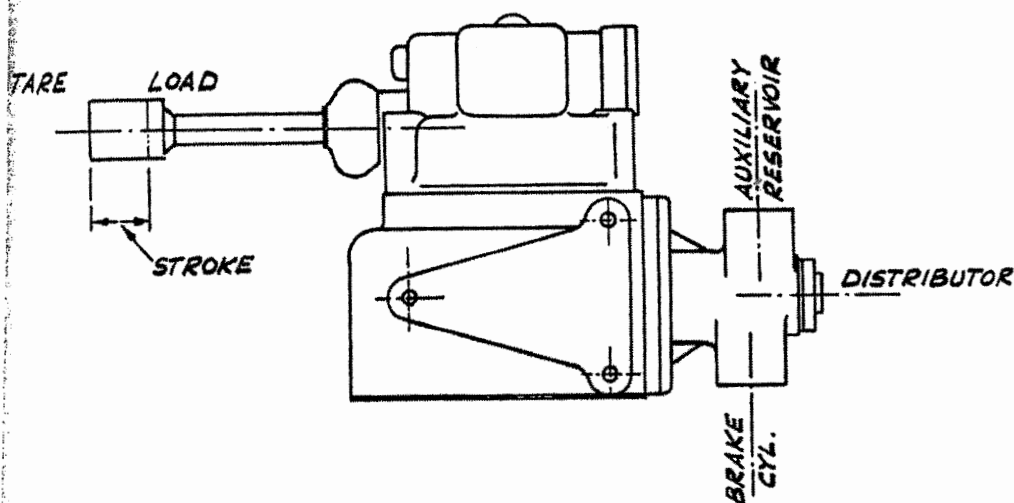
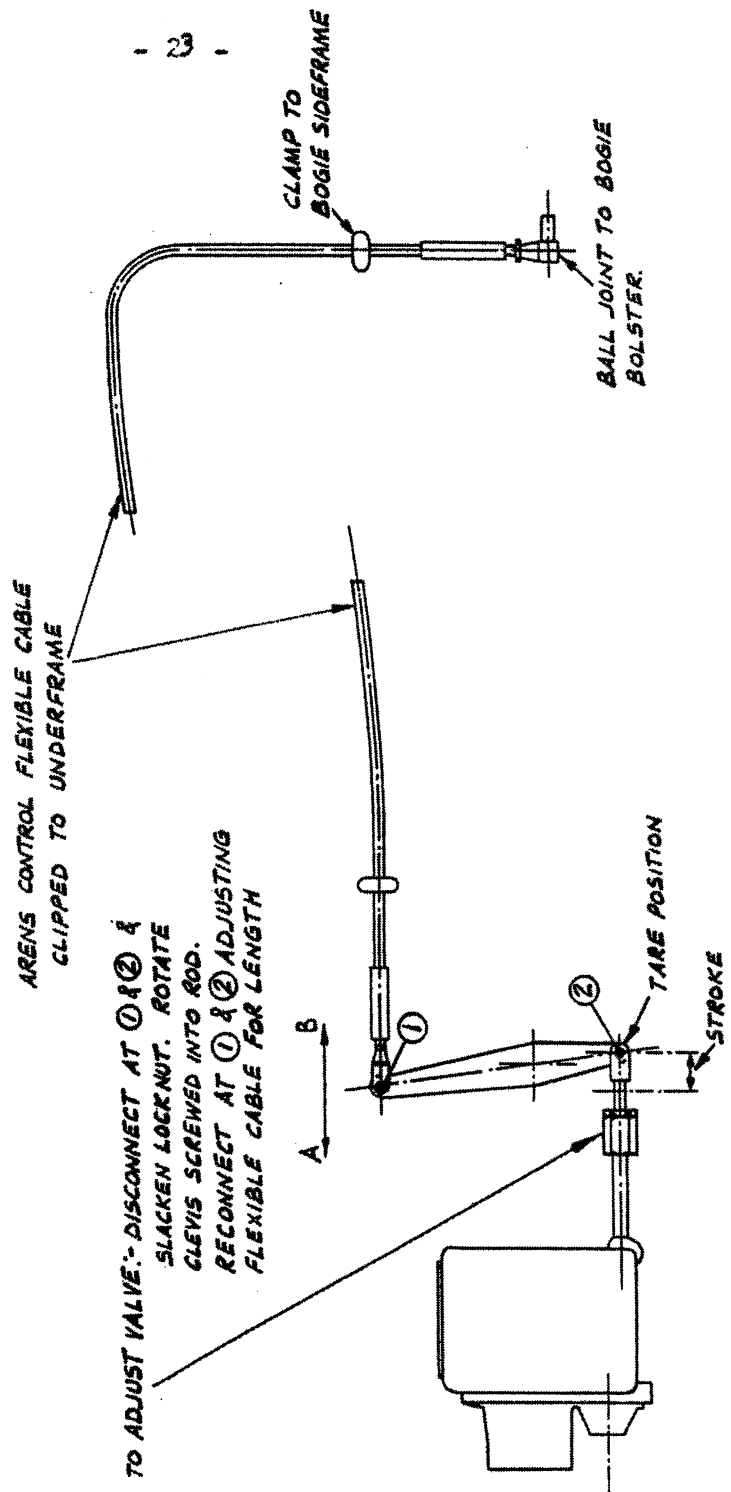

FIG 16
FIG.17.
- (e) Variable Load Valves. (See Fig.16) These are fitted, one to control each brake cylinder. They relay air from the auxiliary reservoir in proportion to the load on the bogie. The deflection of the bogie bolster relative to the sideplate is transmitted to the variable load valve by means of an Arens control flexible cable (See Fig.17) The relevant brake data is as follows :-
necessary adjust the operating rod to each variable load valve to obtain these pressures (pushing rod in increases pressure and pulling out reduces pressure; adjustments then to be made as in Fig.17) and repeat tests 3 & 4 to recheck cylinder pressures.
- (7) Loaded conditions may be simulated by manipulation of the variable load valve operating rod. Disconnect each valve linkage at point (1) shown on Fig.17 and proceed with the test described in Para. 5. The top of the fulcrum levers should be moved in direction "B" (Fig.17) the following amounts :-